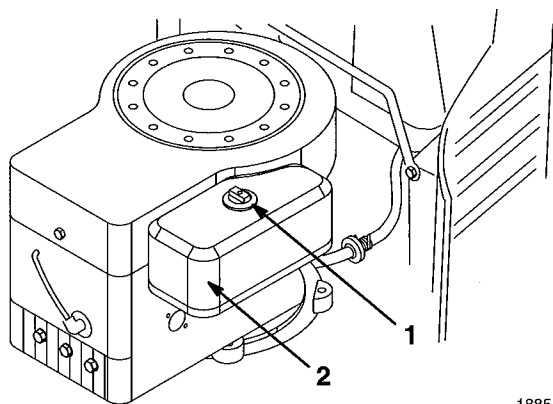

Figure 26
3. Clean around the air cleaner to prevent dirt from getting into the engine and causing damage. Unscrew the knob and remove the air cleaner cover (Fig. 26).
3. Install the air cleaner cover and knob (Fig. 26). Tighten the knob snugly.
- Screw coupling to the end of a garden hose, attach coupling to mower washout fitting and turn water on high (Fig. 26).